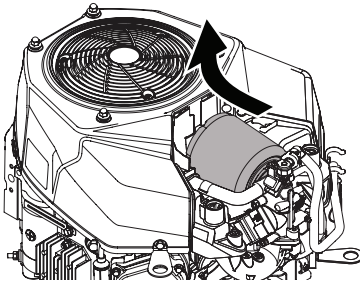

Figure 10
3. Pull up on an angle and then forward to remove the air filter (Figure 10).